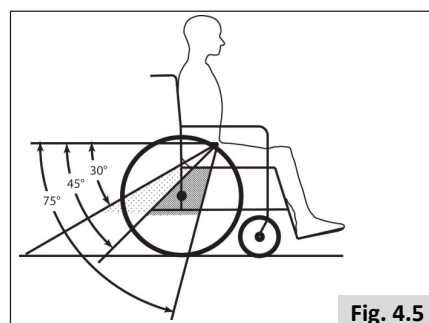

Fig. 4.5
18. A steeper (greater) angle within the preferred zone is desirable, closer to, but not exceeding 75 degrees (Fig. 4.5).